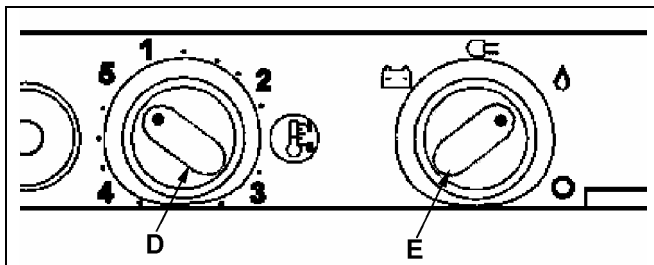

Figure 9-2 – Refrigerator Control Panel
- Turn the thermostat (D) to the 5 setting. See figure 9-2.
- Turn the selector switch (E) to the LP gas position.